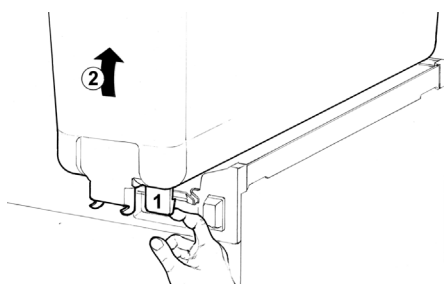

figure 1
- 2 Remove the empty bowl by lifting the pulling lever (1) and its front side (faucet side) up and off the bowl gasket (see figure 1).